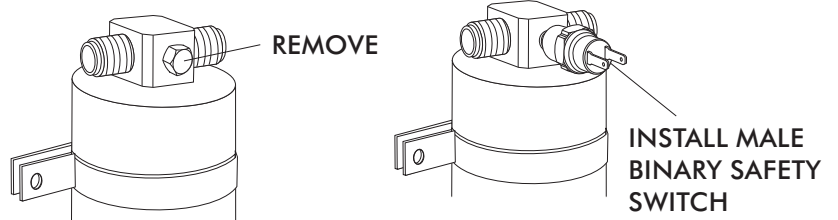

FIGURE 3b
- REMOVE SCREW FROM DRIER AND INSTALL BINARY SWITCH ON DRIER AS SHOWN IN FIGURE 3b.